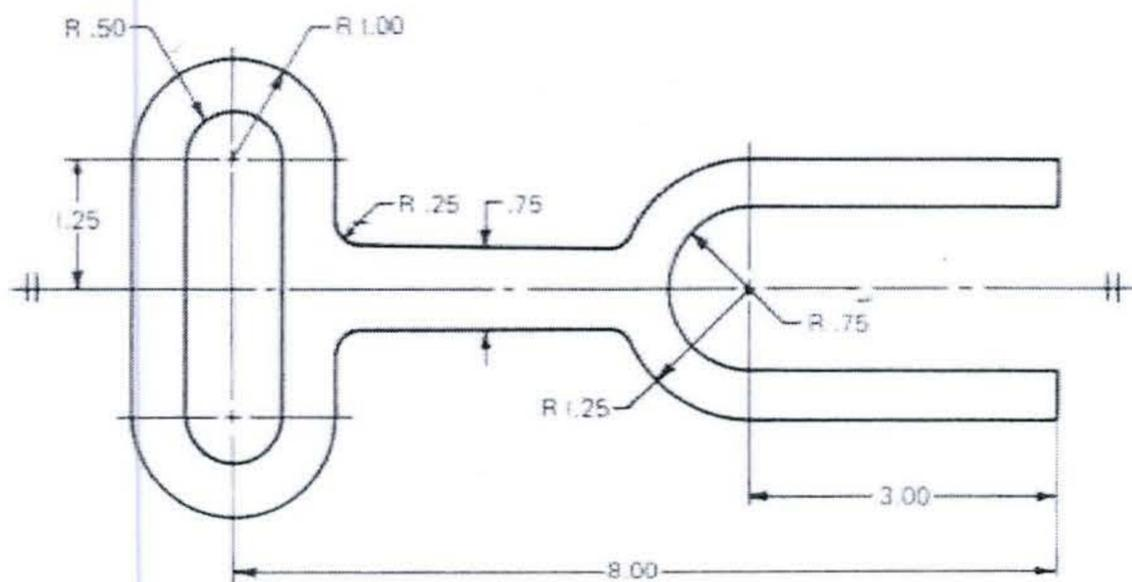

Figure QU3 Fork
B. AutoLisp programming may be used for automating the draughting of features which may be repetitive in nature yet the sizes may be varied frequently from batch-to-batch. Write an AutoLisp programme for quickly drawing the Adjustable Fork feature represented in Figure QU3. The control feature is the fork arms opening gap. The programme should work in such a way that the operator enters the size of the fork arms opening gap first, followed by picking the coordinates of the start point of the drawing and the rest of the feature drawing should be automatically generated once the start point is established. [13]